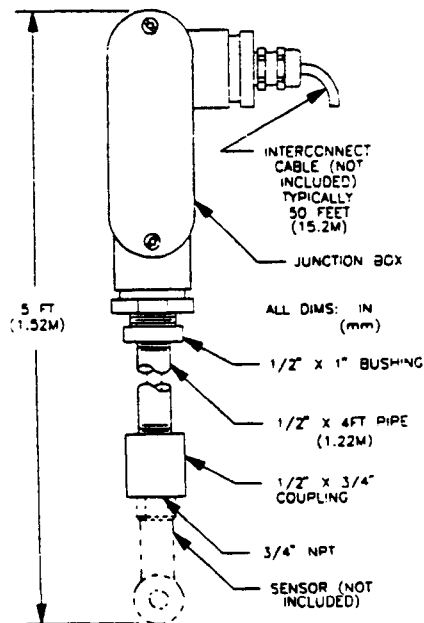

Figure 2-1 Submersion Mounting Details
- Dimensions . . . . . See Figures 2-1, 2-2, 2-3, or 2-4
The convertible style sensor may be submersion or tank mounted by threading it onto the end of a pipe of an appropriate length (Figure 2-1).